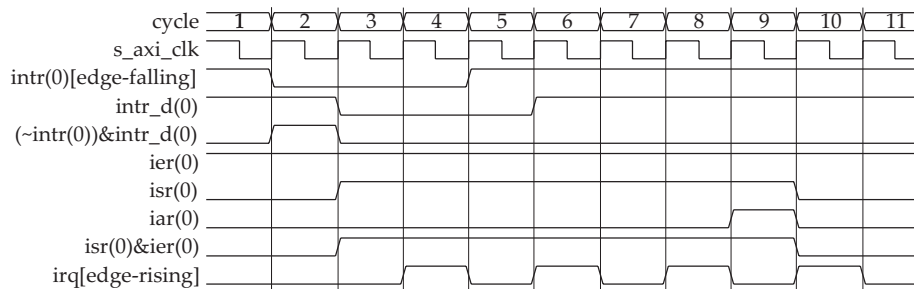

Figure 23: Input Intr - Edge Sensitive (Falling) and Output Irq - Edge Sensitive (Rising)
- Configured Input Interrupt (Intr) for Edge sensitive (falling) and Output Interrupt Request (Irq) to Edge sensitive (rising) and is shown in Figure 23.